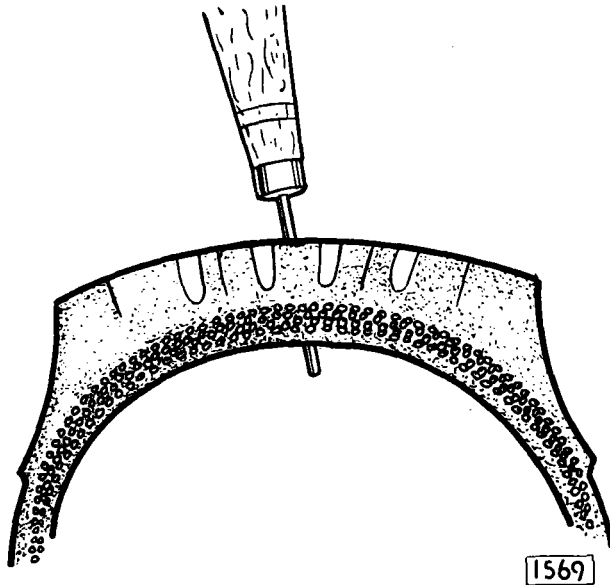

Fig. 24. Determining direction of penetration with probe.
1. Extract the penetrating object and determine the direction of penetration by inserting the small wire probe through the hole and leave in position (Fig. 24). If the tyre is leaking and the puncturing object cannot be located by sight, it is necessary to immerse the inflated tyre in water.